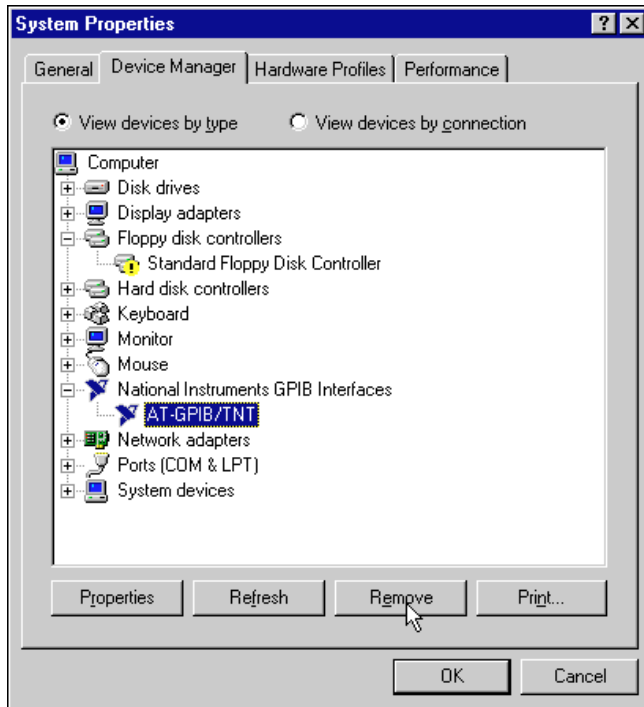

Figure A-1. Selecting an Interface to Remove
3. Select the interface you want to remove from the **National Instruments GPIB Interfaces** list, as shown in Figure A-1. Click on the **Remove** button to remove the hardware information.